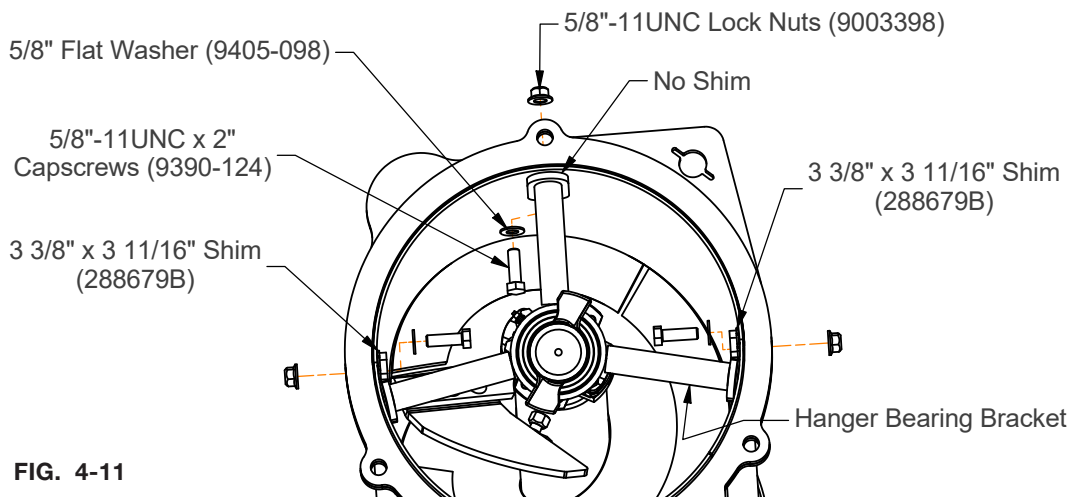

FIG. 4-11
- Loosely secure the hanger bearing using two 3 3/8" x 3 11/16" shims (288679B), three 5/8"-11UNC x 2" capscrews (9390-124), three 5/8" flat washers (9405-098), and three 5/8"-11UNC lock nuts (9003398) as shown in FIG. 4-11.